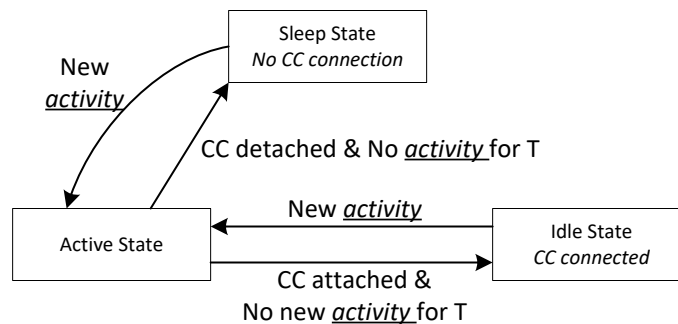

Figure 7-25. Flow Diagram for Power States
The TPS26750A can operate in one of three different power states: Active, Idle, or Sleep. The Modern Standby mode is a special case of the Idle mode. The functionality available in each state is summarized in Section 5.7. The device automatically transitions between the three power states based on the circuits that are active and required. See Figure 7-25. In the Sleep state, the TPS26750A detects a Type-C connection. Transitioning between the Active mode to Idle mode requires a period of time (T) without any of the following activity: